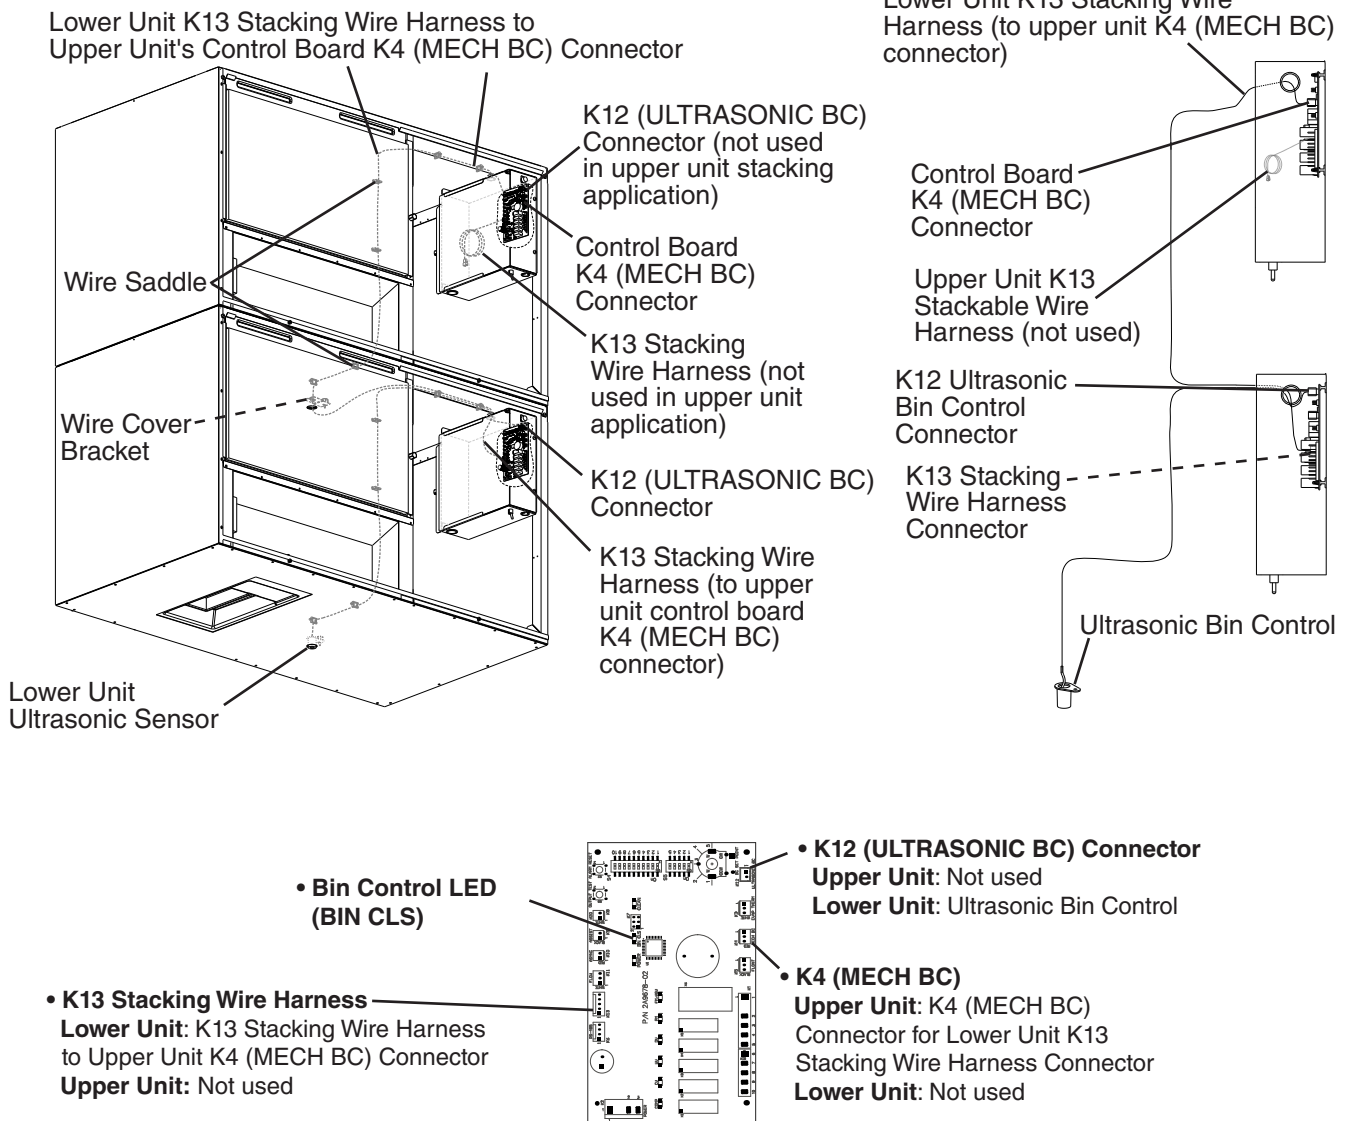

Fig. 6
See Fig. 6.
- 7) If not already removed, remove the upper and lower units' control box covers. Disconnect the upper unit's ultrasonic bin control connector from the control board K12 (ULTRASONIC BC) connector. Remove and discard the upper unit's ultrasonic bin control. Note: The upper unit's K13 stacking wire harness connected to the control board's K13 connector is not used in this application. See Fig. 6. **NOTICE! The upper unit's ultrasonic bin control must be removed for proper operation.**
a) Lower Unit Ultrasonic Bin Control to Upper Unit Ultrasonic Bin Control. See Fig. 6.